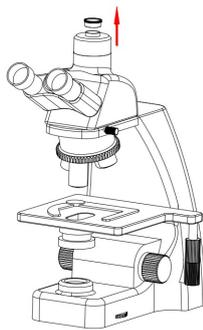

Figure 1
- 1.Screw out the dust cover of interface C of the trinocular microscope, as shown in figure 1